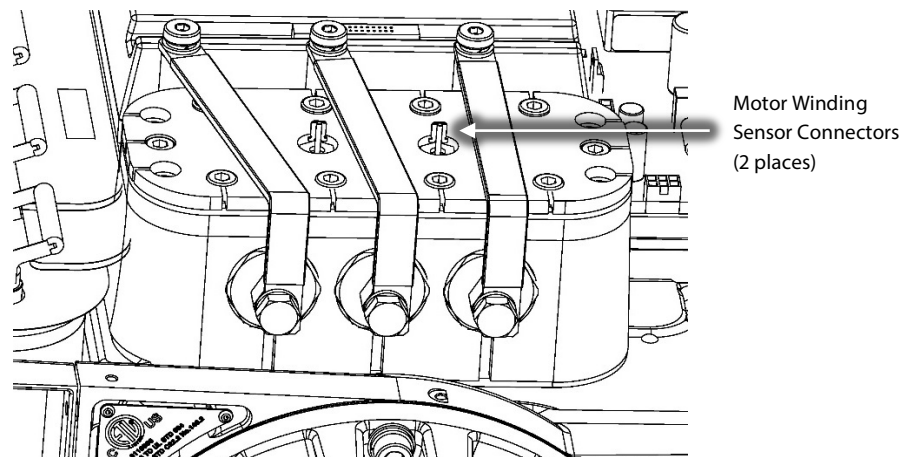

Figure 18 – Motor Winding Sensor Connector Removal
26. Disconnect the wires from the Motor Winding Sensor. Refer to Figure 18 (Motor Winding Sensor Connector Removal).